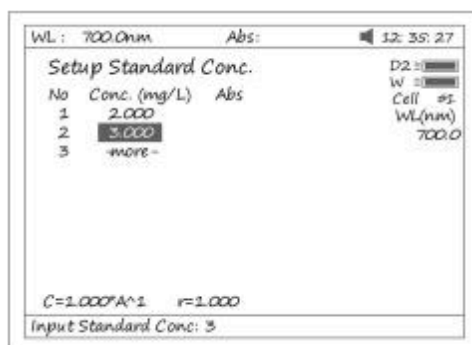

Fig 31
3.3.1 Enter standard concentrations of samples by pressing the Numeric keypad followed by **【ENTER】**. Press **【^】** or **【V】** to modify the inputted data (Fig31).